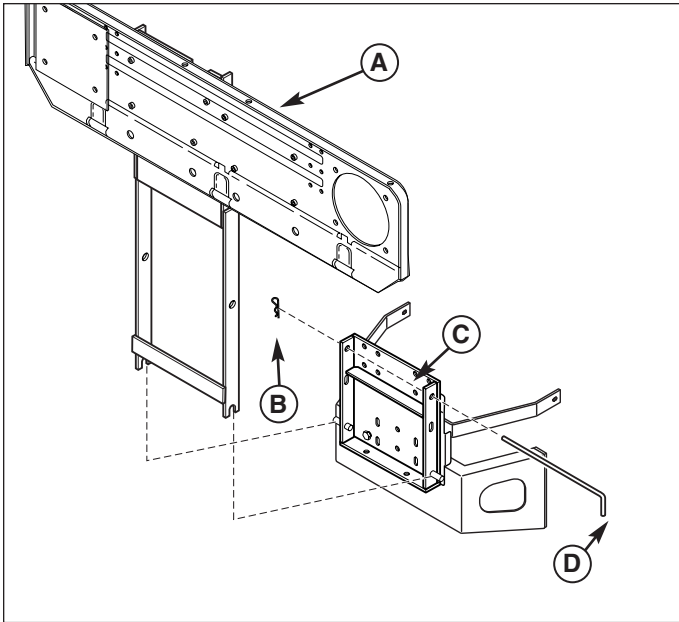

Figure 5. Install Back Plate (Flat Style Bumper shown)
1. Set the back plate and support (A, Figure 5) onto pins of hitch plate (C). Secure with rod (D) and hair pin (B).